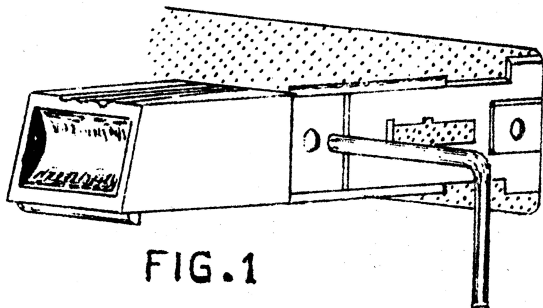

FIG.1
- E. Bend the metal rod as shown in Figure 1.